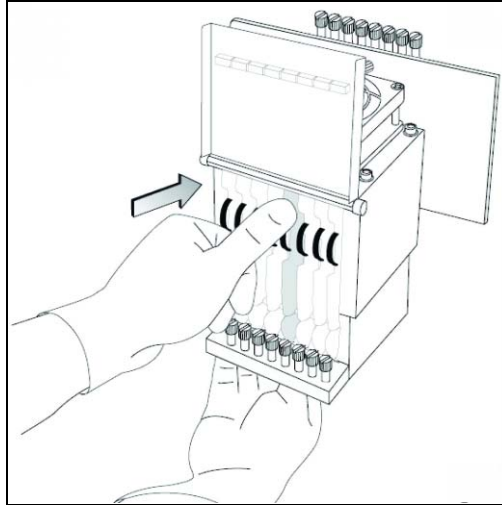

Figure 6-67: Inserting the print-head driver card into its socket
- Re-insert the print-head driver card into its socket (see figure 6-67 on page 45).